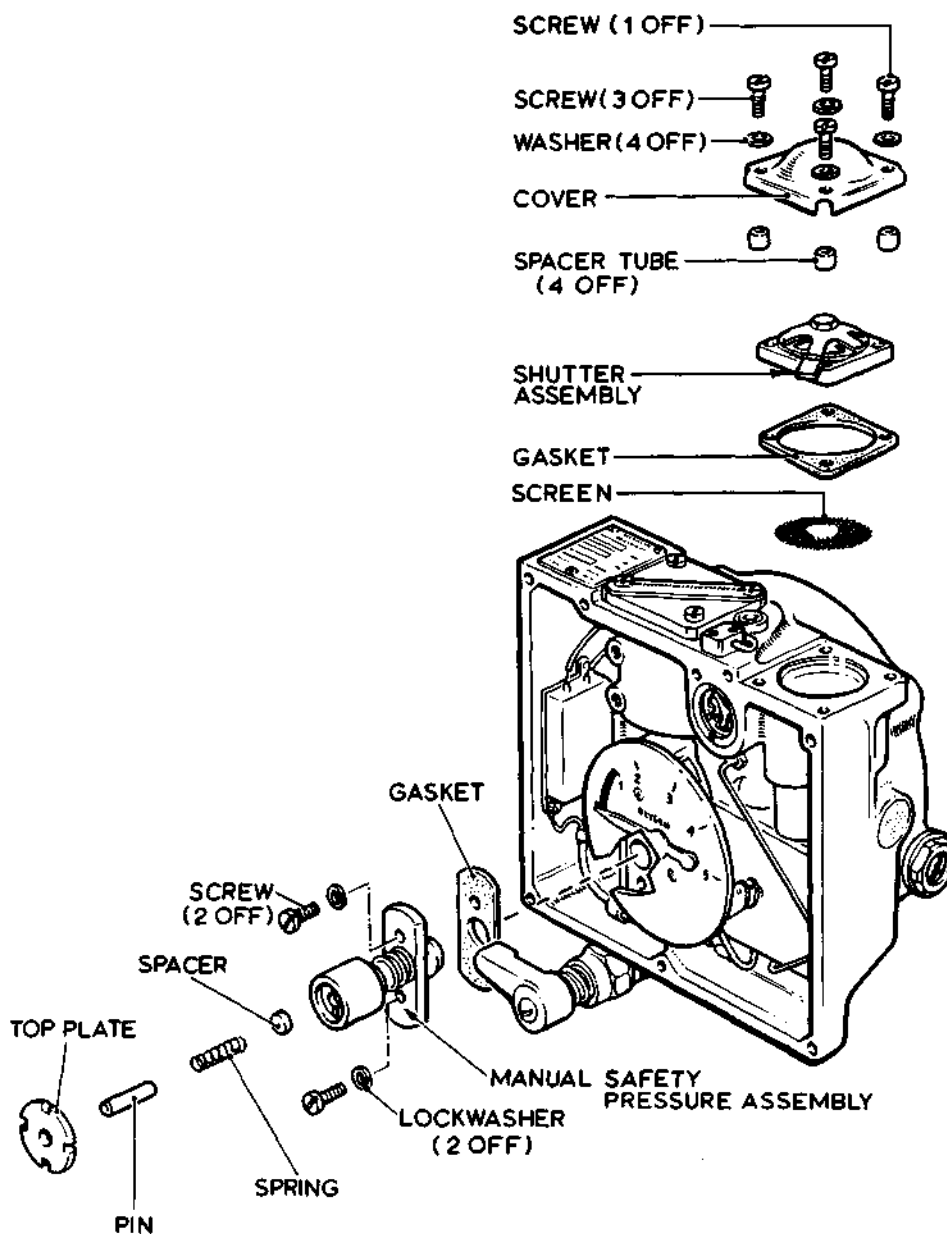

Fig.6. Safety pressure assembly and air inlet shutter assembly removed
- ◀ (2) Remove the top plate from the top of the manual safety pressure assembly and withdraw the pin, the spring and, if fitted, the spacer; this spacer is used for adjustment purposes when necessary. Refer to fig.6.
- (3) Remove the two screws and lockwashers, and remove the manual safety pressure assembly. Remove and discard the gasket (Part No. 717343-1/N).
- (4) Remove the four screws, lockwashers, and spacer tubes, then remove the cover, shutter assembly, gasket (Part No. 778448-1/N) and the screen. Refer to fig.6. Discard the gasket. Do not disturb the aneroid and check valve assembly.
##### 57. Manual safety pressure assembly (fig.6)